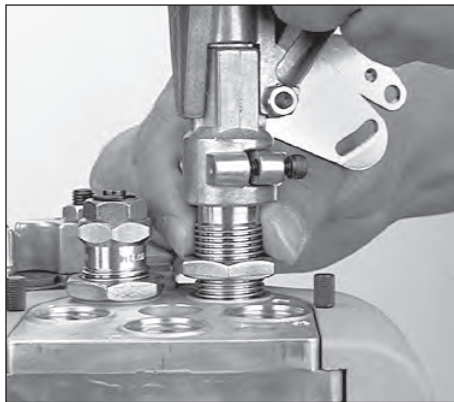

FIG 95
4. If the white cube has not traveled its full distance, lower the platform just enough to pull the case off of the powder funnel (this will prevent the shellplate from indexing while you adjust the powder die). While holding the powder measure, turn the die down 1/8 of a turn **FIG 95**. Again raise the platform and observe the travel of the powder bar.